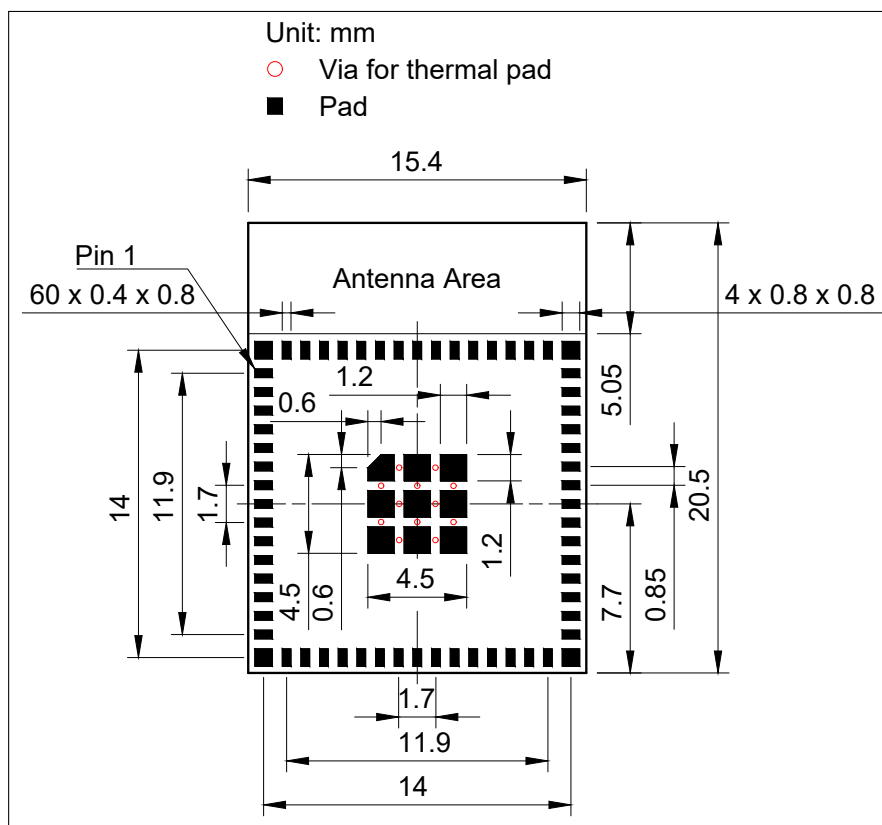
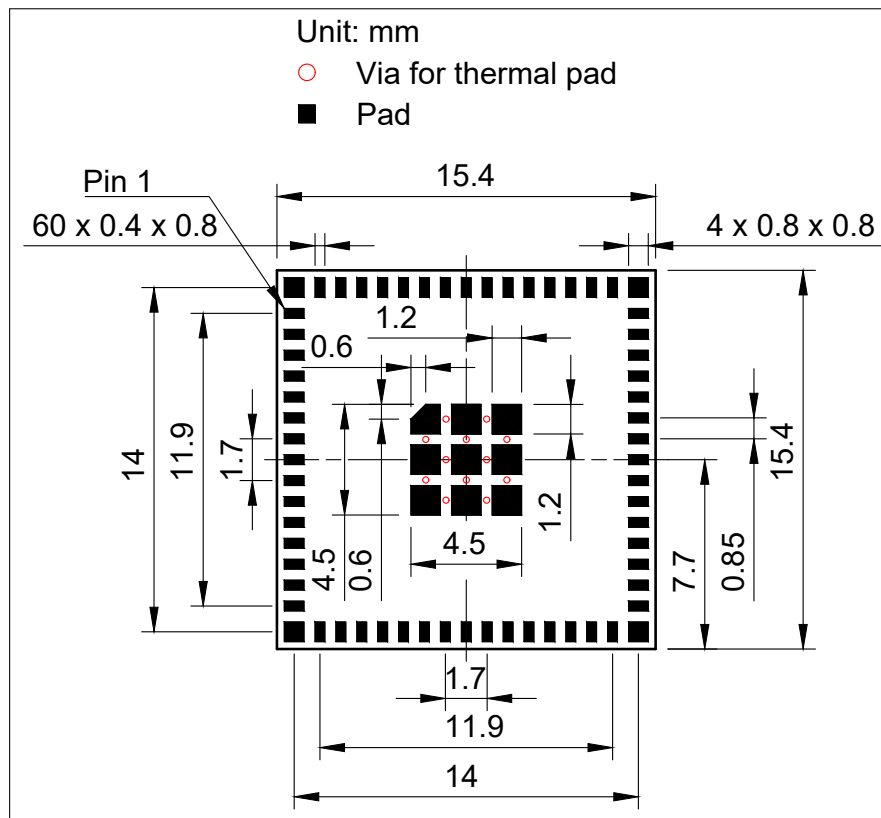

Figure 11: ESP32-S3-MINI-1 Recommended PCB Land Pattern
Figure 12: ESP32-S3-MINI-1U Recommended PCB Land Pattern
- Figures for recommended PCB land patterns with all the dimensions needed for PCB design. See Figure 11 *ESP32-S3-MINI-1 Recommended PCB Land Pattern* and Figure 12 *ESP32-S3-MINI-1U Recommended PCB Land Pattern*.
- Source files of recommended PCB land patterns to measure dimensions not covered in Figure 11 and Figure 12. You can view the source files for ESP32-S3-MINI-1 and ESP32-S3-MINI-1U with Autodesk Viewer.